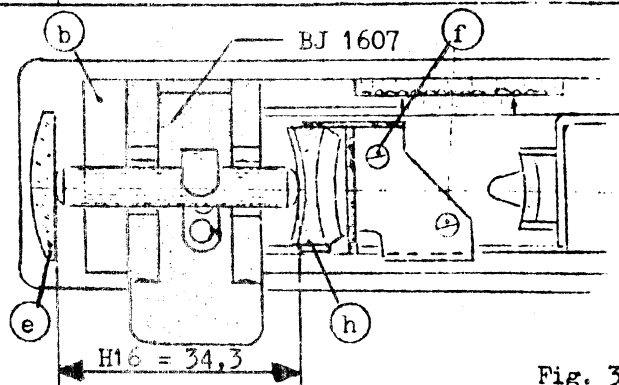

Fig. 3
1.3 Fitting the mobile lens element (fig. 3)